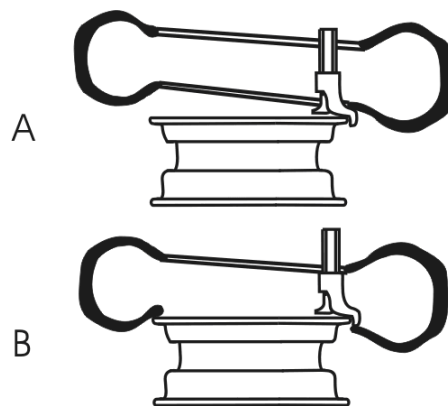

Fig. 23
- Place the bead on the edge of the mounting head(H) and under the tongue(Fig.23)